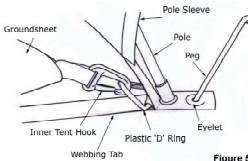

Figure 5
8. The two inner sleeping compartments are identical, gather these up and take them inside the tent. Position them, one to each side of the doorways, ensuring that the doors to the inners are in the correct place and that they are closed. Start at the rear edge of the inners hook the corners of the groundsheet to the "D" rings located on the edge of the flysheet. These will sometimes share the same "D" rings as the communal groundsheet (see figure 5).